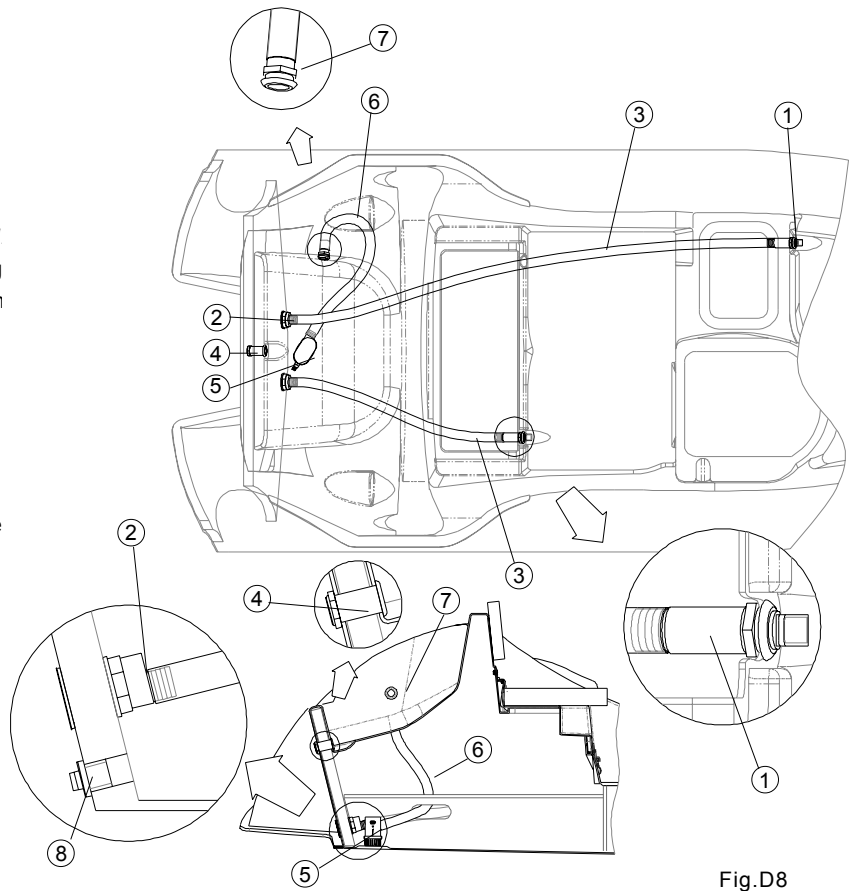

Fig.D8
Drain system, (Fig. D8), consists of the three inde systems:
WARNING	<p>Bilge valve (8)(Fig.D8) should be tightly CLOSED when the boat on the water</p> <p>Bilge valve (8)(Fig.D8) should be open when the boat is out of the water</p>